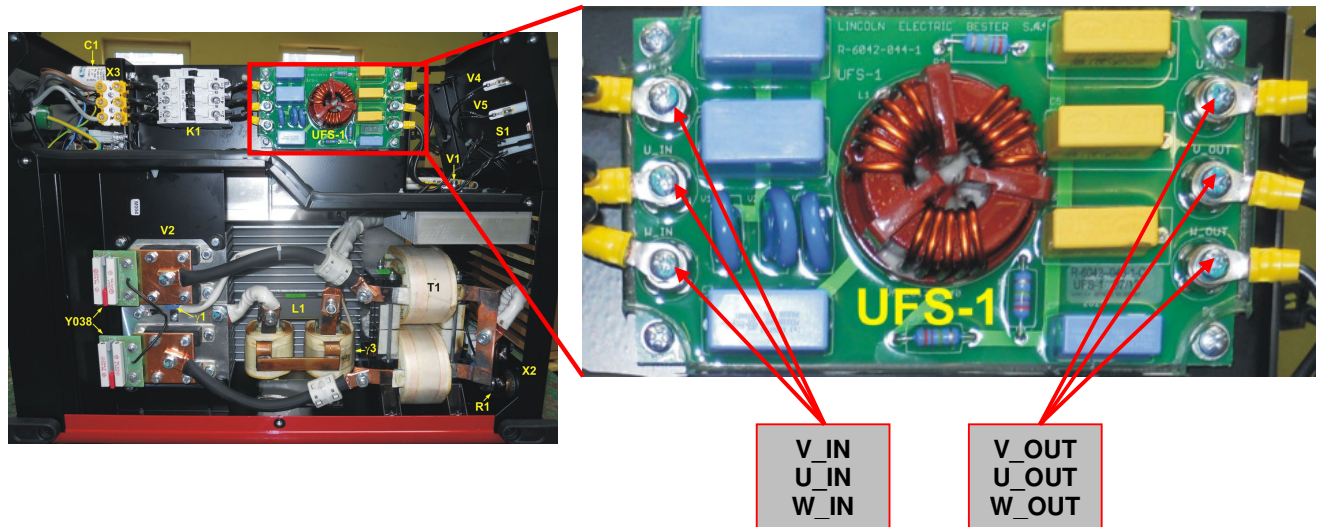

Figure 14
3. Locate the input contactor K1. See **Figure 14**
4. Using Phillips screwdriver PH02 remove and label the 3 input cables **V_IN, U_IN, W_IN** and the 3 output cables **V_OUT, U_OUT, W_OUT**. See **Figure 14**